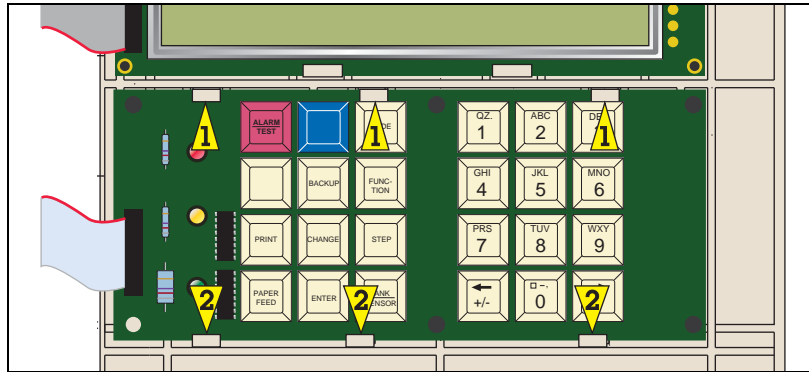

Figure 4. Removing Keyboard
7. Flip the old display/keyboard assembly over (see Figure 4). The keyboard is held in place by three notched sections (item 1) along its top edge and three flex snaps (item 2) along its lower edge. Remove the keyboard assembly from the old display's plastic cover by pressing down on the three snaps below the keyboard assembly one at a time, while rotating the bottom edge of the keyboard away from the cover (see Figure 4).